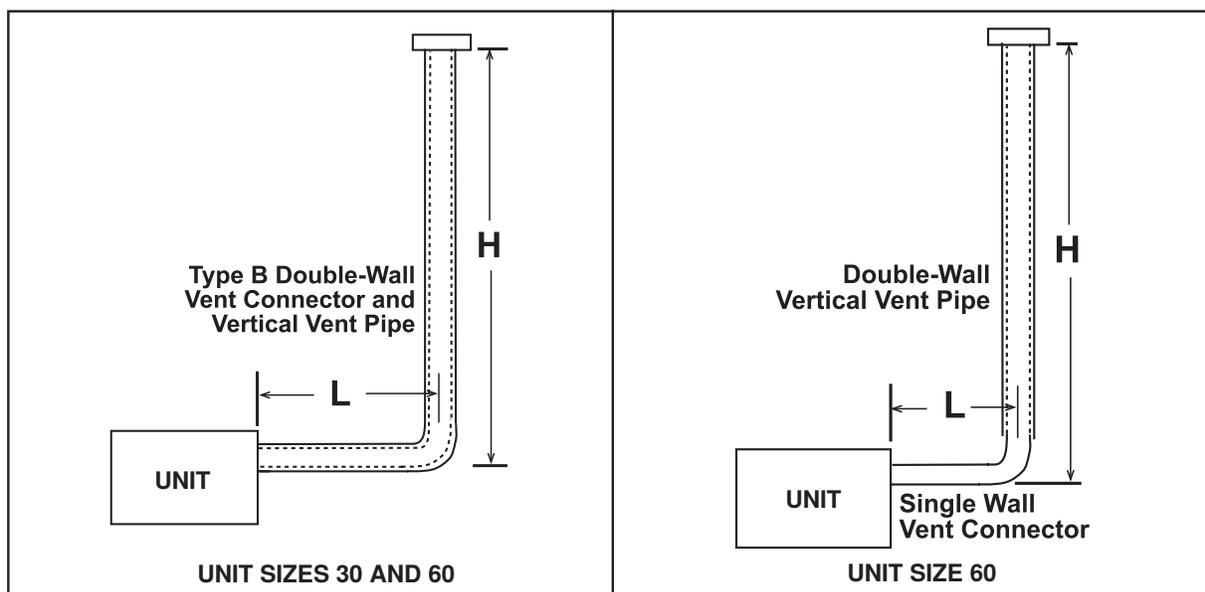

Figure 7. Typical Category I Dedicated Vent (Refer to Table 11)
1. Select vent pipe and vent connector for Category I vent (see Figure 7).
H x L (See Figure 7) Dimension (Feet (Meters))